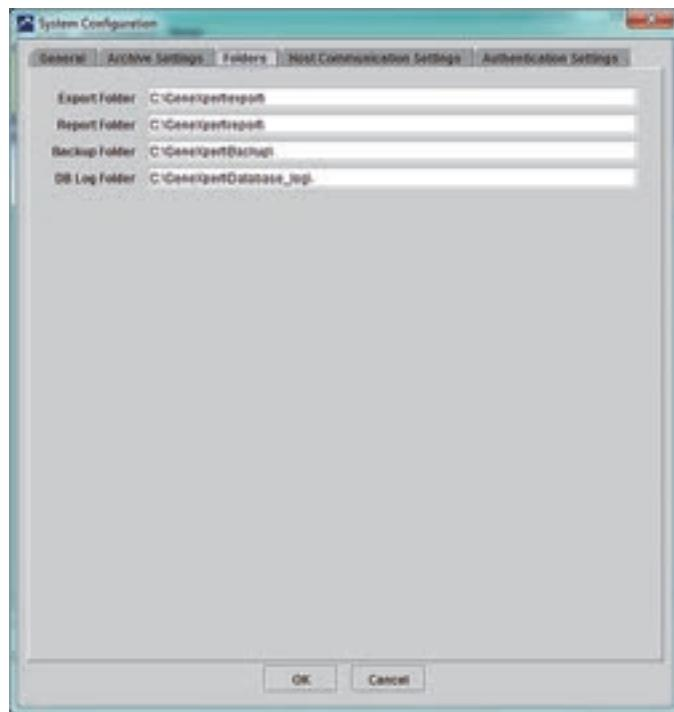

Figure 2-80. System Configuration Dialog Box (Folders Tab)
2. Click the **Folders** tab. The **Folders** tab appears. See Figure 2-80.